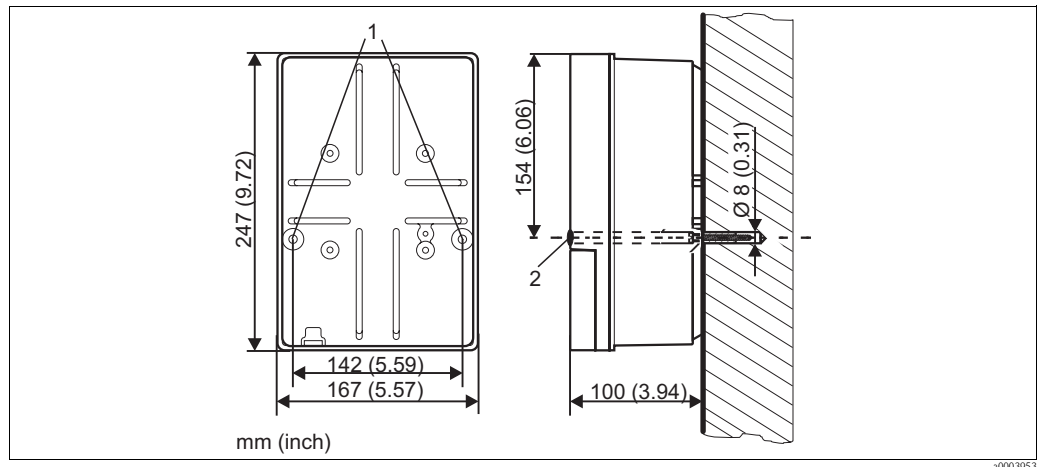

Fig. 10: Dimensions for wall mounting, securing screw: \varnothing 6 mm (0.24"), wall plug: \varnothing 8 mm (0.31")
1. Bore the holes as per Fig. 10.
2. Push the two securing screws from the front through the securing bores (item 1).
4. Cover the bores with the plastic caps (item 2).